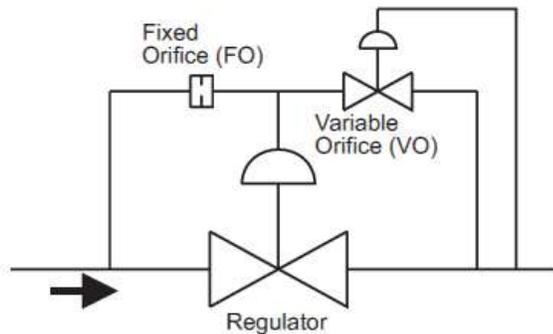

Fig. 3 Typical Pilot System
The accuracy of the system is a function of the "GAIN" or multiplication of the pilot system which is primarily dependent on the ration of the flow area of the Fixed Orifice (FO) to the Variable Orifice (VO) (See Figure 3). The fixed orifice is always smaller than the variable orifice and in many systems the fixed orifice is adjustable so that the regulator may be adjusted in the field for the highest gain (greatest accuracy) possible. Gain values of 50:1 are not uncommon, which means that the pressure can be controlled to within 2% of the set point.